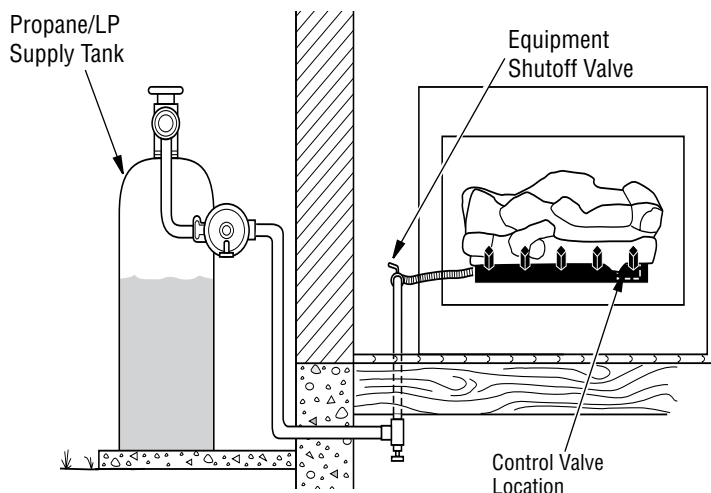
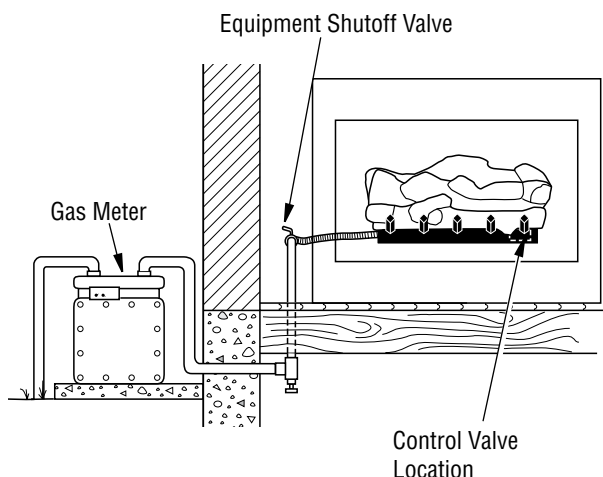

Figure 14 - Checking Gas Joints (Propane/LP Only)
Figure 15 - Checking Gas Joints (Natural Gas Only)
3. Check all joints from gas meter to equipment shutoff valve for natural gas or propane/LP supply to equipment shutoff valve for propane/LP (*see Figure 14 or Figure 15, Page 11*). Apply noncorrosive leak detection fluid to all joints. Bubbles forming show a leak.
4. Check all joints from gas meter to equipment shutoff valve for natural gas or propane/LP supply to equipment shutoff valve for propane/LP (*see Figure 14 or Figure 15, Page 11*). Apply noncorrosive leak detection fluid to all joints. Bubbles forming show a leak.